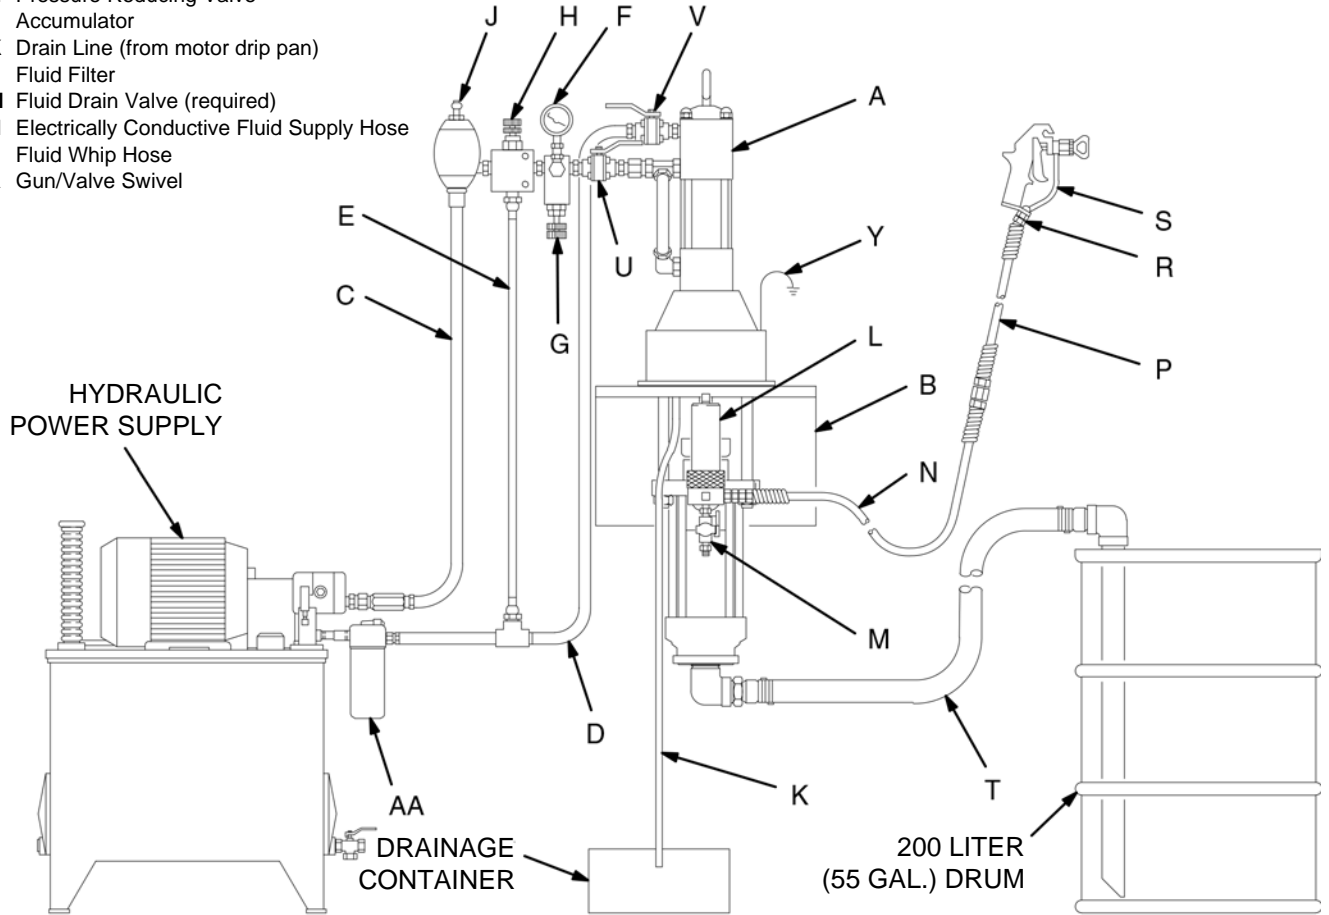

Fig.5
Mount the pump (A) to suit the type of installation planned. Fig. 5 illustrates a wall-mounted system. Pump dimensions and the mounting hole layout are shown on pages 38 and 39.
**On the hydraulic supply line (C)**, install the following accessories in the order shown in Fig. 5, using adapters as necessary:
- **A shutoff valve (U)** isolates the pump for service.
- **A fluid pressure gauge (F)** to monitor hydraulic oil pressure to the motor and to avoid overpressurizing the motor or displacement pump, and a **pressure- and temperature-compensated flow control valve (G)** to prevent the motor from running too fast and possibly damaging itself.
- **A pressure reducing valve (H), with a drain line (E)** run directly to the hydraulic return line (D).
- **An accumulator (J)** to reduce the hammering effect caused by the motor reversing direction.
**On the hydraulic return line (D)**, install the following accessories in the order shown in Fig. 5, using adapters as necessary:
- **A shutoff valve (V)** isolates the pump for service.
- **A filter (AA)** of 10 micron size.
1. Refer to Fig. 5 on page 11. Connect the suction kit (T) to the pump's fluid inlet, and place the tube into the fluid supply.
3. Make certain that the supply line shutoff valve (U) and the return line shutoff valve (V) are closed.
5. Hold a metal part of the gun/valve (S) firmly to the side of a grounded metal pail and hold the trigger open.
6. Open the return line shutoff valve (V) *first*, then slowly open the supply line shutoff valve (U).